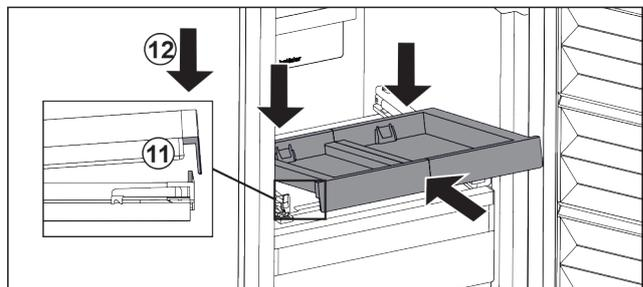

Fig. 45
- ▶ Slide in at an angle. Make sure that the stop is behind the lug on both sides. Fig. 45 (11)
- ▶ Lower the pull-out board at the front. Fig. 45 (12)